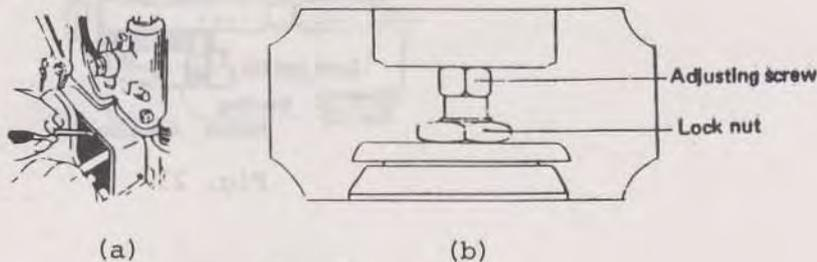

Fig. 24
(1) Set the fuel adjusting lever at setting position which is usually marked on the left hand side of adjusting lever. Then remove the fuel injection pipe and delivery valve.
(2) Turning flywheel slowly by hand, the oil level in delivery valve spring holder comes up. In this way, the starting point of fuel injection can be found. When the oil level comes up, stop turning the flywheel, and check whether the indicator points the correct degree from the top dead center.
(3) The injection start is adjusted by adjusting screw, which is found in the adjusting window provided beneath the fuel injection pump. Tightening or loosening of adjusting screw delays or quickens injection starting, respectively, as shown in Fig. 24 (a) and (b).